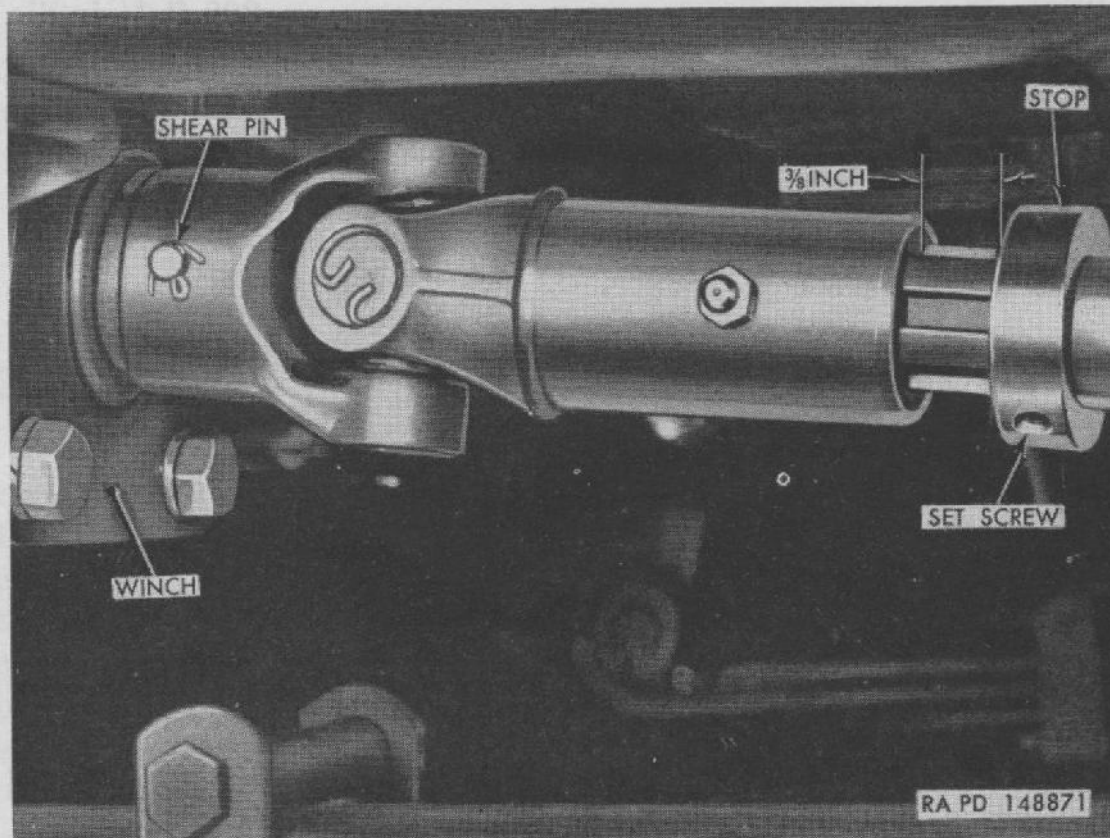
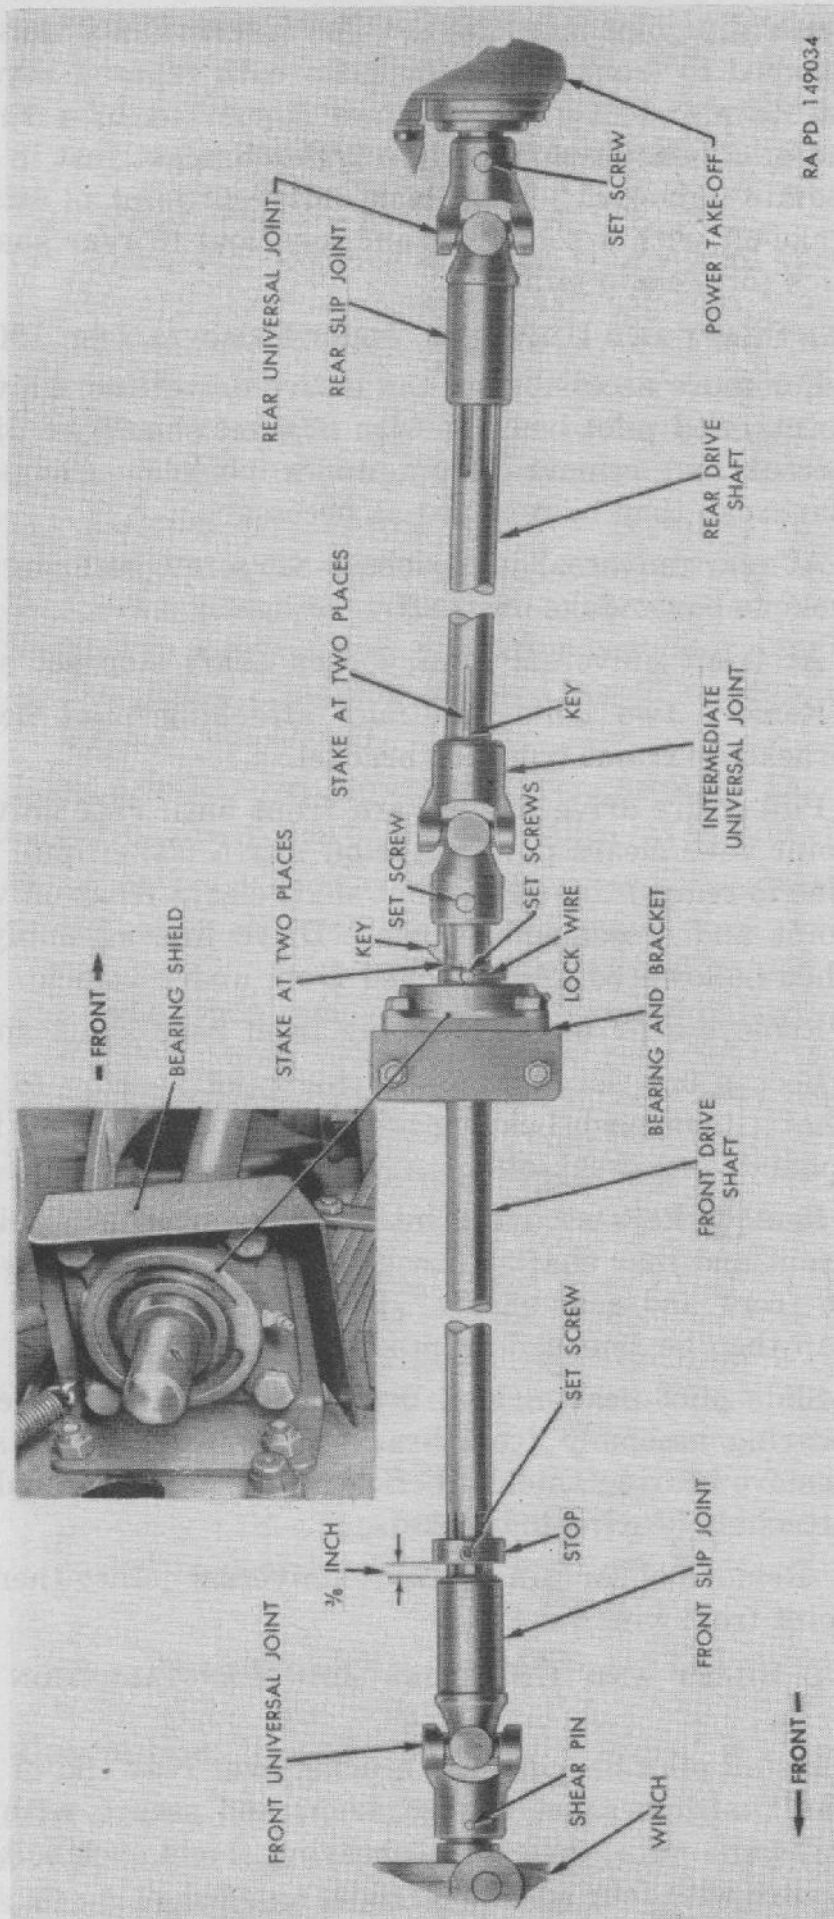

Figure 187. Shear pin installed.
Figure 190. Winch drive shaft and universal joint arrangement.
a. GENERAL. Shear pin is inserted through winch worm shaft and front universal joint yoke (fig. 187). Pin will shear whenever winch is overloaded.
b. SHEAR PIN REMOVAL. Loosen set screw in stop or safety collar (fig. 187), and slide collar toward rear. Pull universal joint toward rear until shear pin is exposed. Drive out broken shear pin.
c. SHEAR PIN INSTALLATION (fig. 187).
(1) Position universal joint yoke over winch shaft to aline pin hole in yoke and shaft.
(2) Dip new shear pin in lubricant (par. 57); then insert pin through universal joint yoke and winch shaft. Install and bend cotter pin at each end of shear pin.
- (3) Move stop or safety collar toward universal point until $\frac{3}{8}$ inch exists between collar and universal joint yoke (fig. 187). Tighten collar set screw firmly.
a. DESCRIPTION (fig. 190). The winch is driven from power-take-off with two drive shafts and three universal joints. The universal joint used at front is attached to winch worm shaft with a shear pin and to forward end of front drive shaft by splines
which form a slip joint (fig. 187). The intermediate universal joint is attached to front and rear shafts with tapered keys and set screws. Rear end of front shaft is supported in a support bracket and pilot bearing mounted on frame bracket just in front of intermediate universal joint. Rear universal joint is attached to power-take-off with a set screw and key, and to rear shaft by splines which form a slip joint.
b. DRIVE SHAFT AND UNIVERSAL JOINT REMOVAL (fig. 190).
- (1) For more accessibility, the entire drive line, universal joints, and pilot bearing with bracket should be disconnected and removed from under vehicle. Component parts can then be removed as necessary.
- (2) At rear universal joint, loosen set screw securing joint yoke to power-take-off shaft.
- (3) At front universal joint, loosen shaft stop set screw.
- (4) Remove two bolts and nuts attaching pilot bearing bracket to frame trunnion bracket.
- (5) Pull entire drive line toward front until rear universal joint yoke clears power-take-off shaft. Then pull drive line to rear until end of front shaft clears front universal joint and crossmember hole. Drive line assembly can then be lowered and removed from under vehicle.
- (6) Remove rear universal joint from rear shaft splines.
- (7) Loosen two set screws securing pilot bearing to front shaft; then push bearing and bracket away from intermediate universal joint.
- (8) Remove keys securing intermediate universal joint to front and rear shafts. Loosen set screws securing joint to front and rear shafts. Intermediate universal joint can then be removed from shaft.
- (9) Slide pilot bearing and bracket off shaft. To remove bearing assembly from bracket, remove four nuts and remove bearing shield; then remove four additional nuts attaching bearing to bracket.
- (10) Remove shear pin at front universal joint; then pull joint from winch shaft.
c. DRIVE SHAFT AND UNIVERSAL JOINT INSTALLATION (fig. 190).
- (1) Install pilot bearing and bracket over rear end of front shaft with bracket toward front and secure with four bolts and nuts; then install bearing shield over bolts and secure with four additional nuts.
- (2) Install intermediate universal joint to ends of front and rear drive shafts. Aline set screw holes in universal joints with depressions in shafts; then install and tighten set screws. Drive keys in firmly; then, again tighten set screw in each joint. Stake shaft at outer end of each key at two places. Also stake yokes at set screws.
- (3) Install rear universal joint over splines of rear shaft.
- (4) Install front universal joint over winch worm shaft and install shear pin through joint yoke and shaft. Install and bend cotter pin at each end of shear pin.
- (5) Guide front end of front shaft through crossmember hole; then position stop on shaft. Insert front shaft into splines of front universal joint.
- (6) Push entire drive line assembly toward front until rear universal joint can be installed on power-take-off shaft, alining key in shaft and universal joint yoke. Tighten set screw which secures joint yoke to power-take-off shaft.
- (7) Position pilot bearing bracket against frame trunion bracket; then install two attaching bolts and nuts. Tighten nuts to 48-64 pound-feet torque.
- (8) Tighten two pilot bearing set screws firmly, and install lock wire through heads of set screws.
- (9) Position stop at front universal joint until $\frac{3}{8}$ inch exists between collar and universal joint yoke (fig. 187). Tighten set screw firmly.
- e. Check position of stop (fig. 187) and tighten stop set screw firmly.